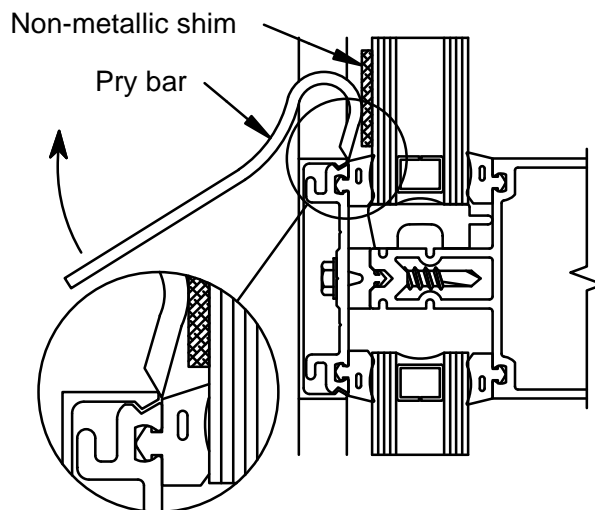

FIGURE 43
- D.1 REGLAZING MUST BE DONE FROM EXTERIOR. Carefully remove face covers surrounding the lite of glass to be deglazed. If WW-520 / WW-420 mullions are used remove horizontal face covers only. SEE FIGURE 43.